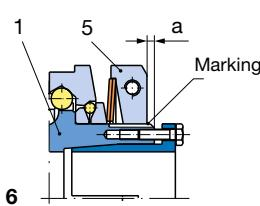

Fig. 6
EAS®-Compact® overload clutch (Sizes 01-3): Dimension "a" is the distance between the adjusting nut facing-side (5) to the hub edge (1) (Fig. 6).